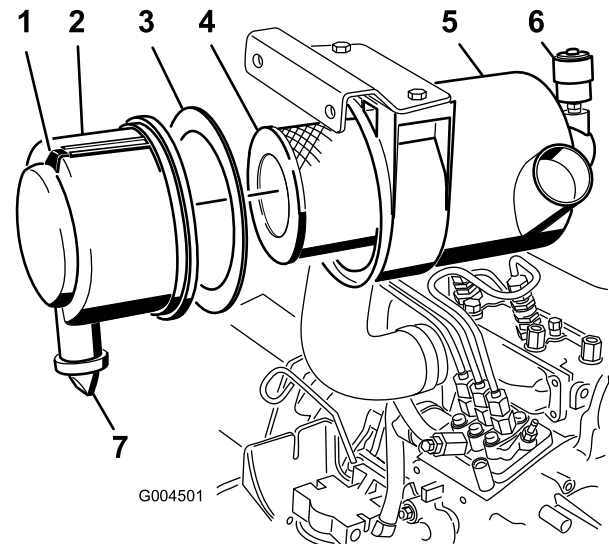

Figure 58
- Service the air cleaner filter when the air cleaner indicator (Figure 58) shows red or every 400 hours (more frequently in extremely dusty or dirty conditions). Do not over service the air filter.
1. Pull the latch outward and rotate the air cleaner cover counter-clockwise (Figure 58).
2. Remove the cover from the air cleaner body (Figure 58).
- Remove and replace the primary filter (Figure 58).
- Ensure that the foam gasket is in place in the cover and that it is not torn or damaged (Figure 58). If it is damaged, replace it.
- Remove the rubber outlet valve from the cover (Figure 58).
- Reset the indicator (Figure 58) if showing red.